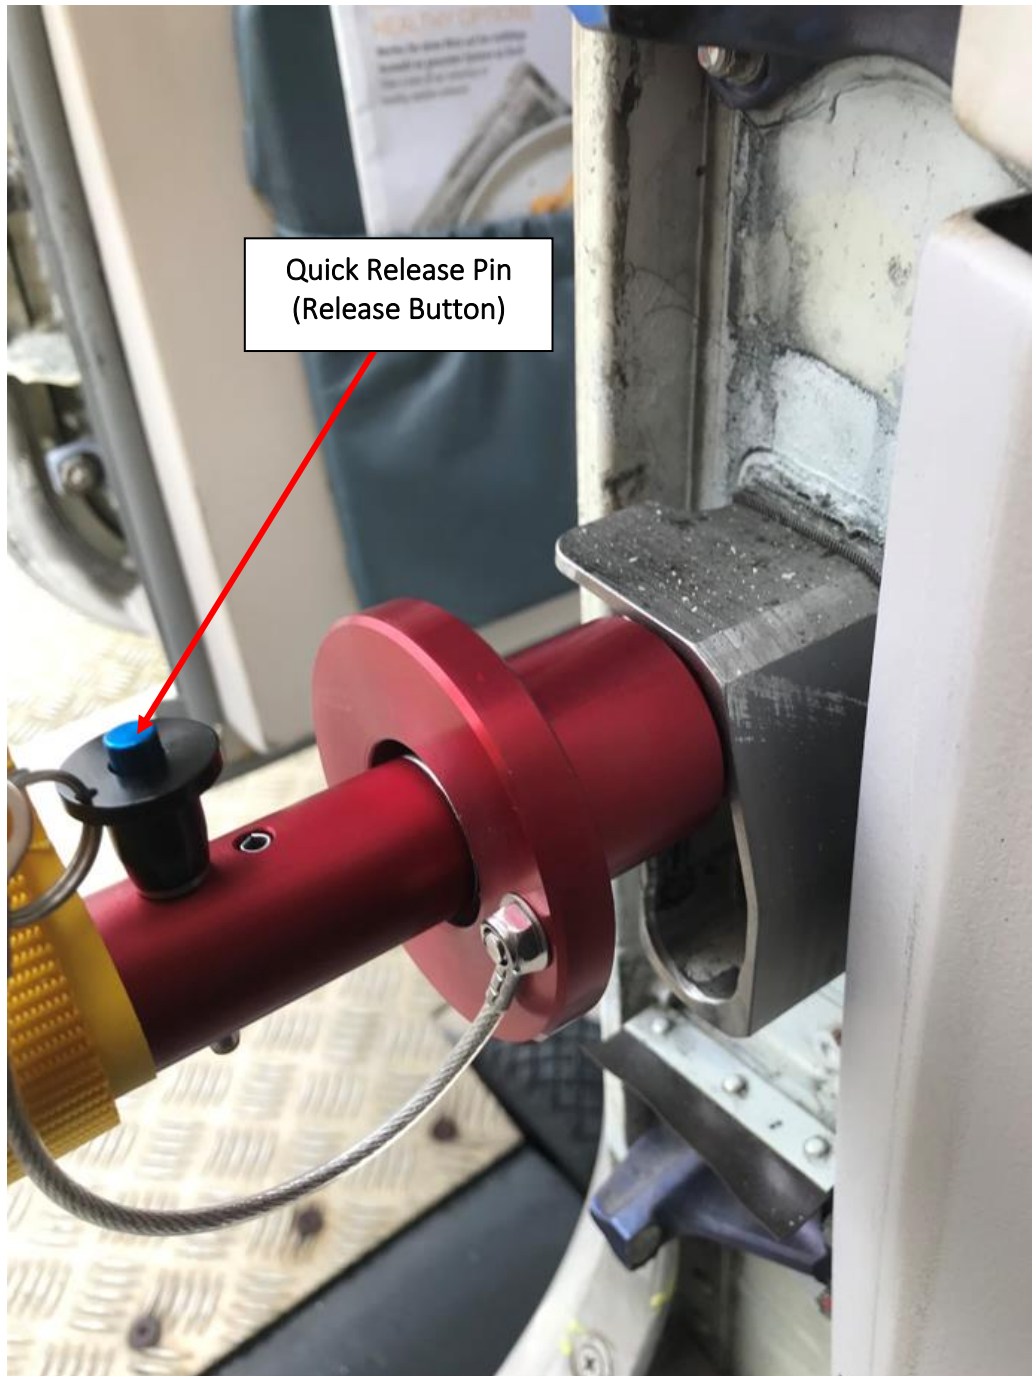

Figure 20 Bottom Spring-loaded and Quick Release Pin in position.
- 4.1.24 With the button released the pin should not be able to be removed see figure 20.